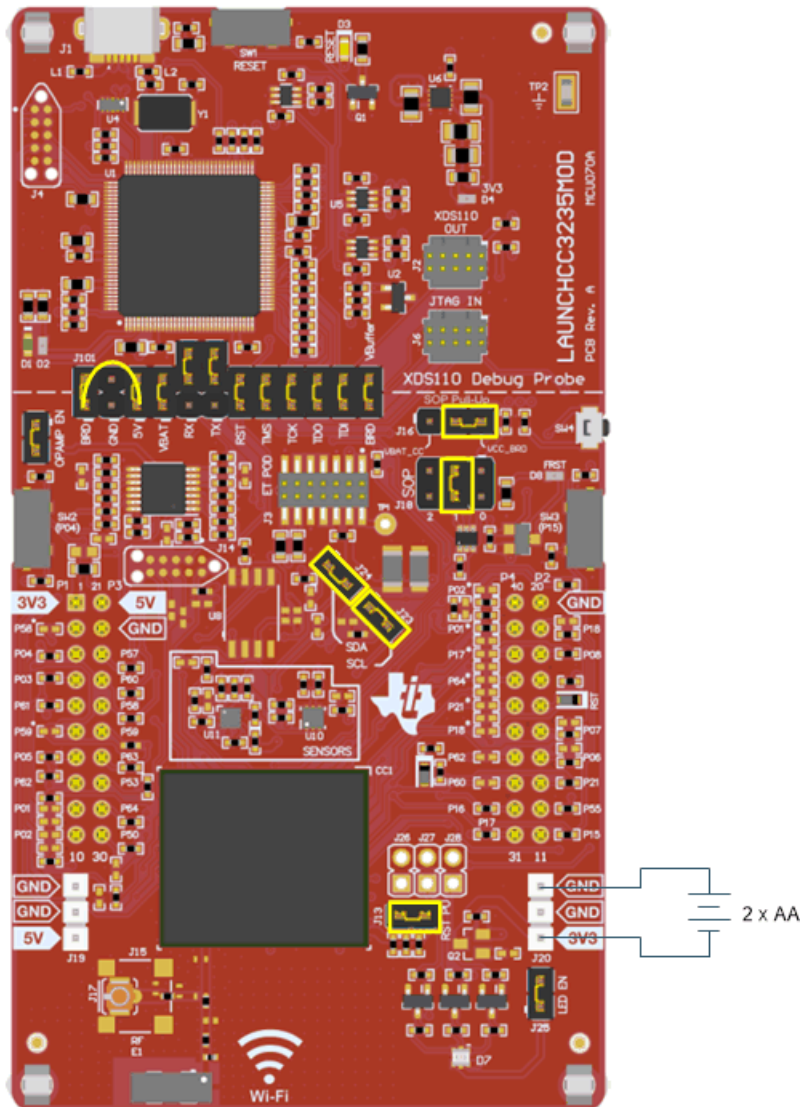

Figure 2-11. Powering the CC3235MODSF LP from an External Power Supply
2. Ensure that jumpers are only placed on the headers shown in Figure 2-11.